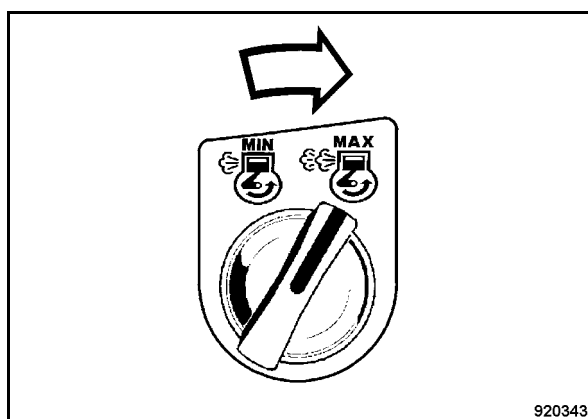

Fig. 64
- Turn the rotary momentary contact switch for engine speed (Fig. 64) clockwise to "MAX".